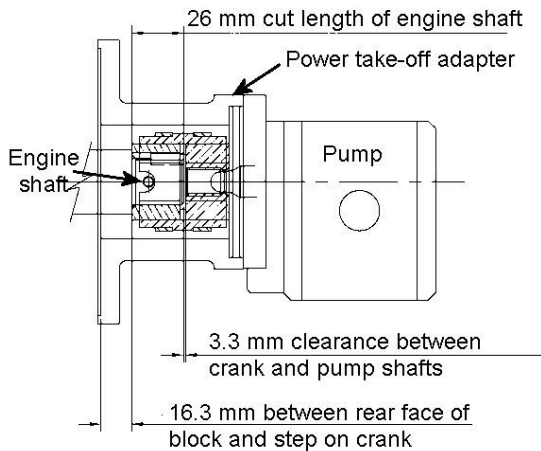

Fig 5-10 Cutting engine shaft
On an engine supplied by TCP, the drive shaft will have been cut to length before dispatch. For an engine obtained from another source, the shaft must be cut precisely to the required size (Fig 5-10) and all burrs removed.
3. Mark the shaft and cut it to the dimensions shown in Fig 5-10.